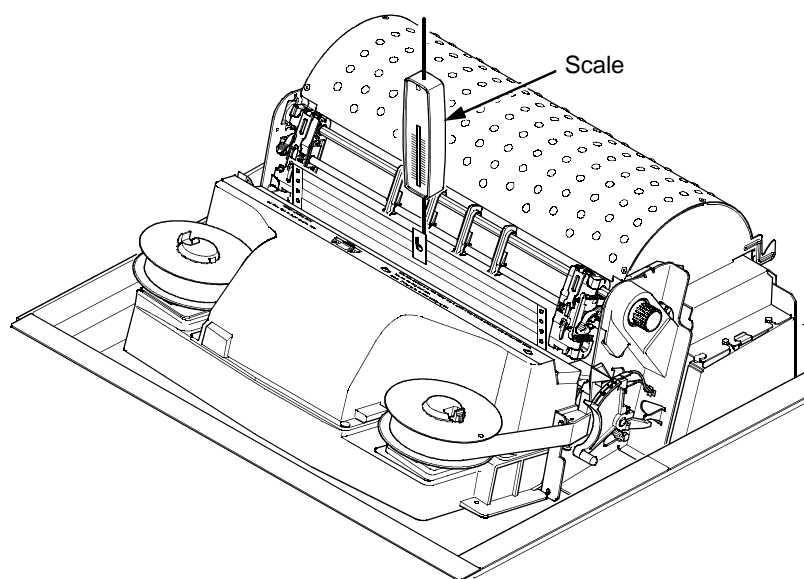

Figure 20. Measuring Paper Tension
8. Pull the paper slowly straight up through the print station for about six inches and note the maximum force exerted on the scale. Do not pull any page perforations through the print station. (See Figure 20.)